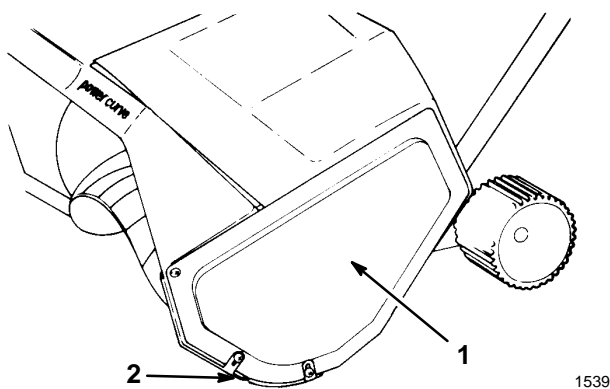
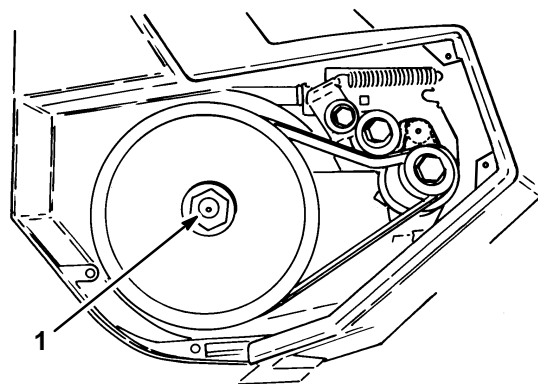

Figure 14
Figure 15
Note: If you are unable to remove rotor shaft by holding rotor, remove left side cover and skid (Fig. 14). Hold hex nut with 7/8" wrench while unscrewing rotor shaft (Fig. 15).
1. Remove (3) screws securing left side plate to snowthrower frame (Fig. 14). Remove side plate and skid.
1. Remove (3) screws securing left side plate and skid to snowthrower frame (Fig. 14). Remove side plate and skid.